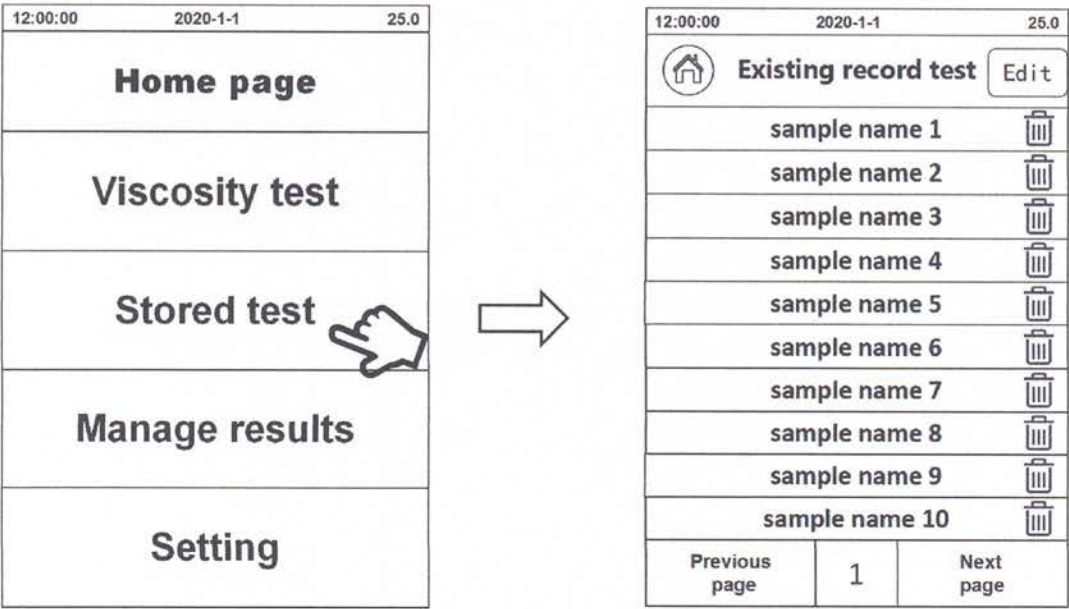

Fig. 24
6.2 View and recall test condition records: After clicking “Stored test” , the stored test records will be displayed on the screen (Fig.24), and select the required test conditions. Click "Edit", the  icon will appear to delete the stored test conditions.